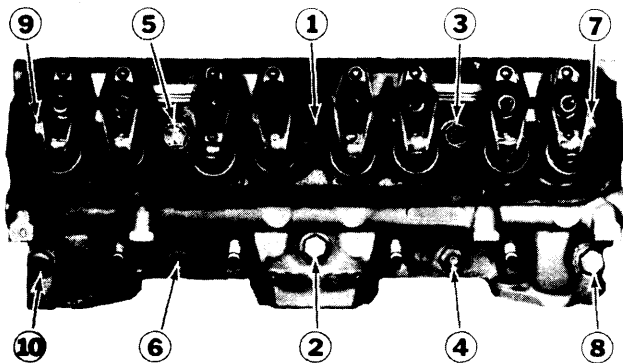

Fig. 1 Cylinder Head Tightening Sequence
2) Install cylinder head and bolts, tighten in sequence. See Fig. 1.